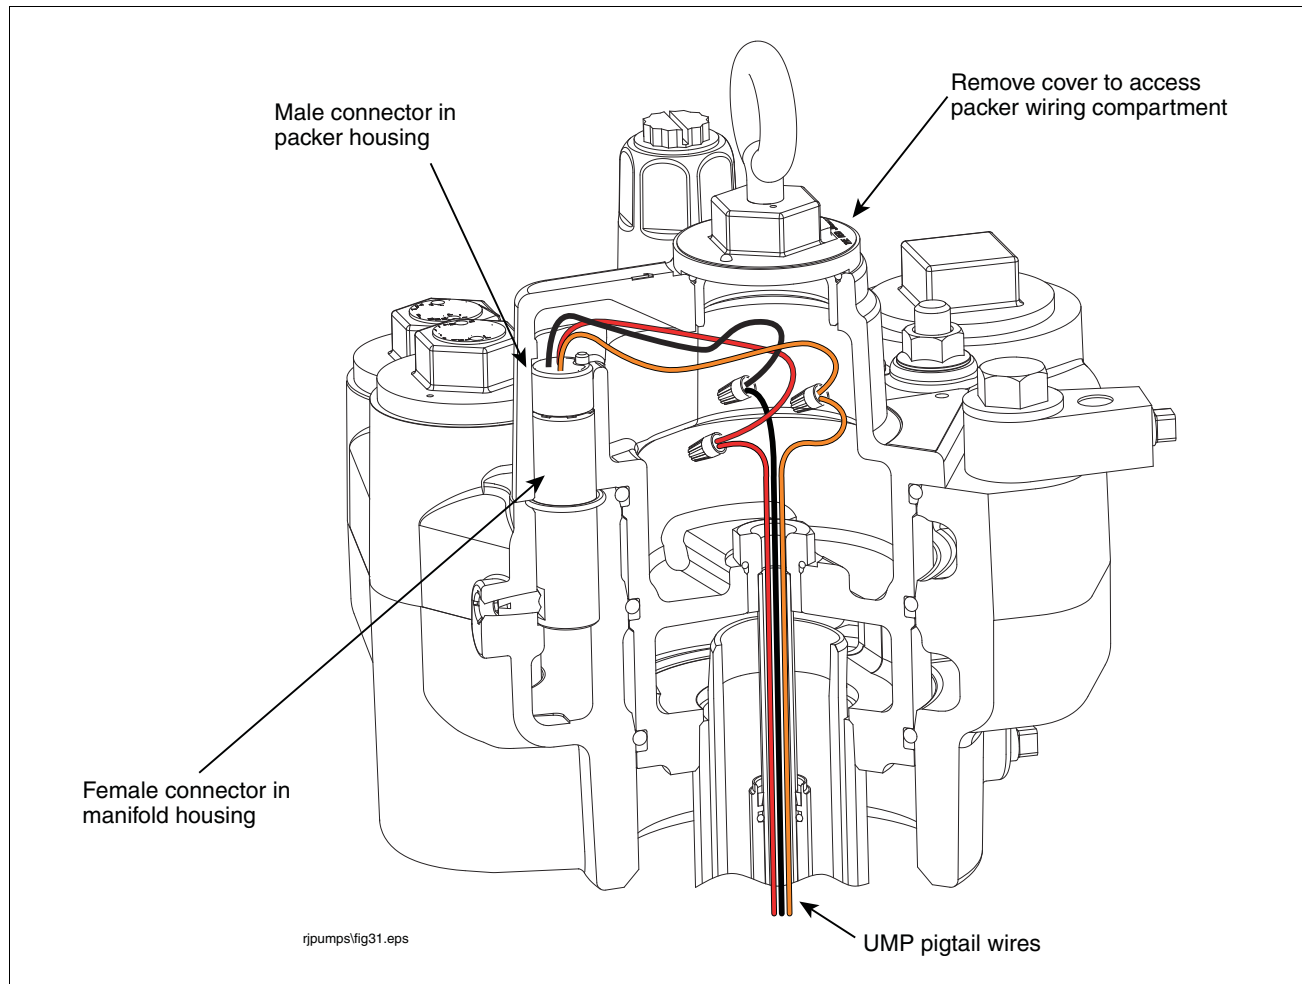

Figure 14. Connecting UMP to packer wiring
13. Connect like colored wires from the UMP to like colored wires from the male connector with wire nuts. When finished connecting the wires, neatly coil them inside the packer's wiring compartment (see Figure 14).